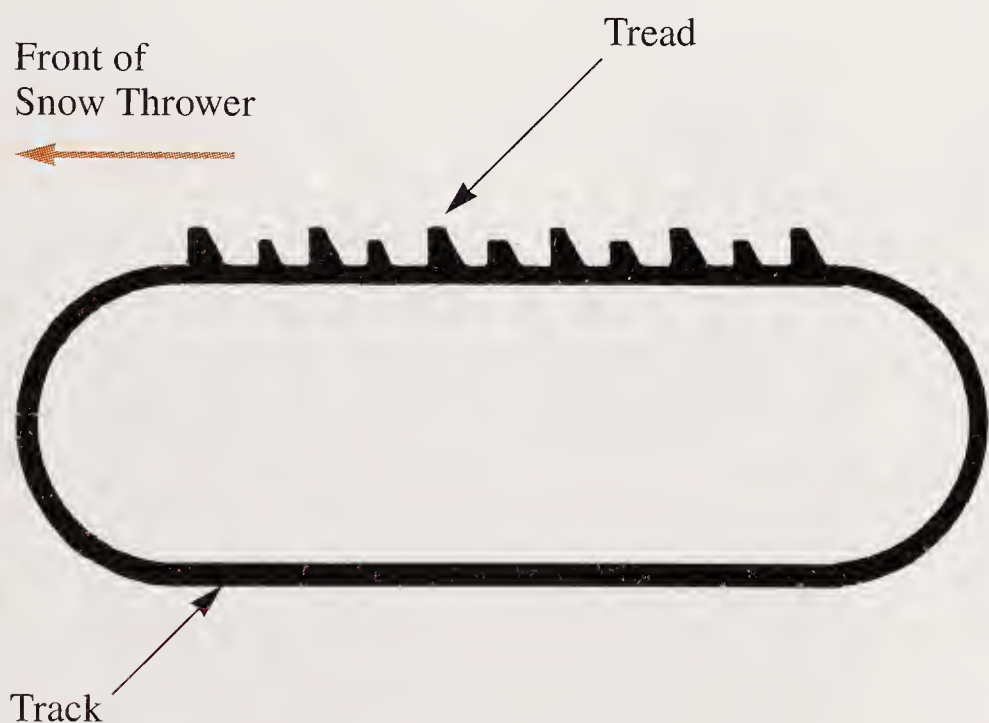

Figure 20-28. Direction of track tread must be as shown when installing on idler and drive wheels. (MTD Products, Inc.)
5. Reassemble in reverse order with a new chain and/or track. When reassembling track, be certain the tread of the track is running in the proper direction. See **Figure 20-28**.